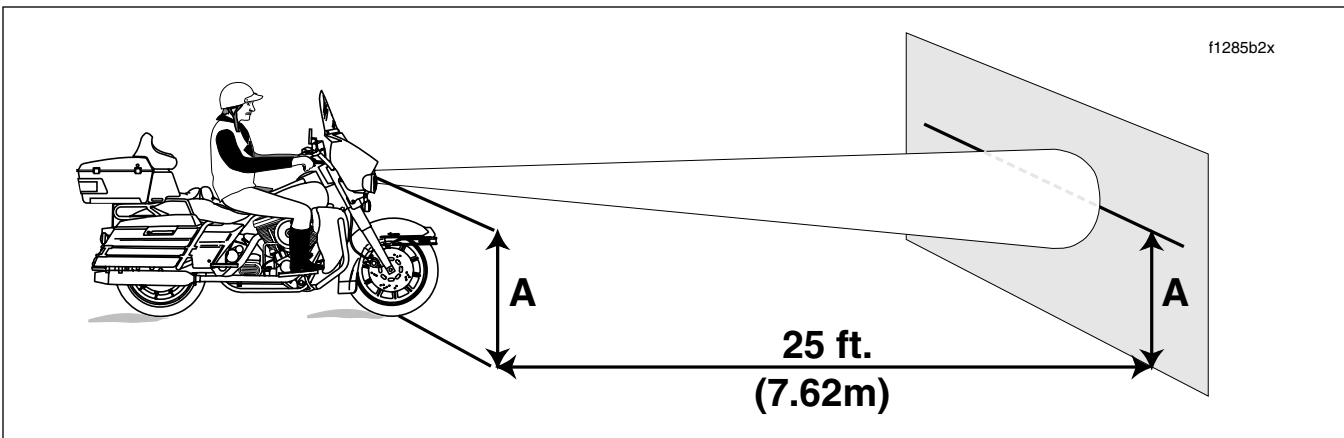

Figure 8-26. Check Headlamp Alignment
3. See Figure 8-26. Point the front of the motorcycle toward a screen or wall which is 25 feet (7.62 m) from where patch of front tire contacts floor (i.e. - directly below front axle).